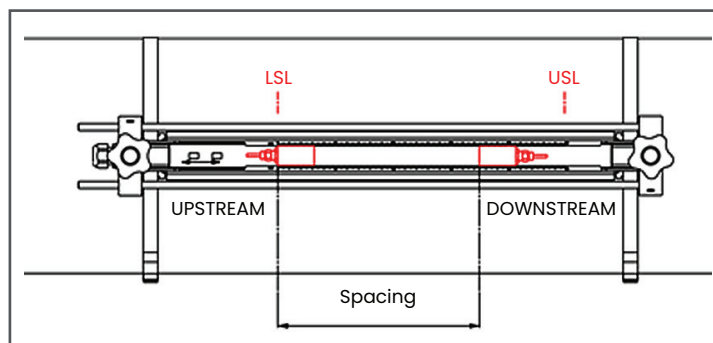

Figure 13: Installation for Two Traverses with One Fixture
5. See Figure 13 below for an example of a completed installation. In this drawing, LSL is the lower specified limit and USL is the upper specified limit for the installation.